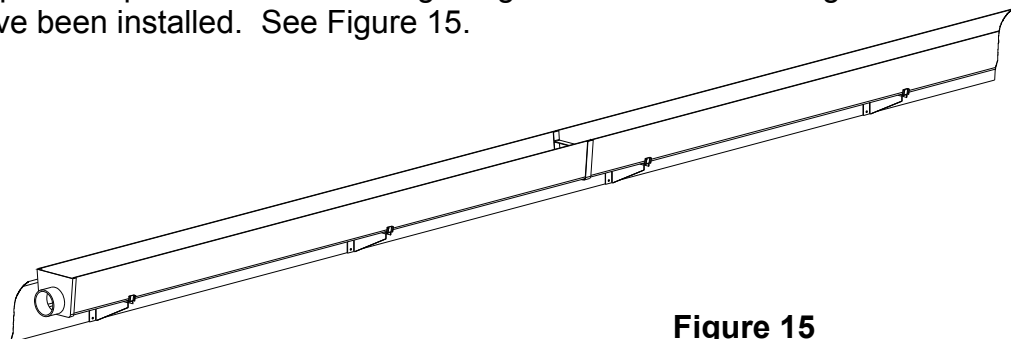

Figure 15
10. Repeat the process of connecting the gutter sections until all gutter sections have been installed. See Figure 15.